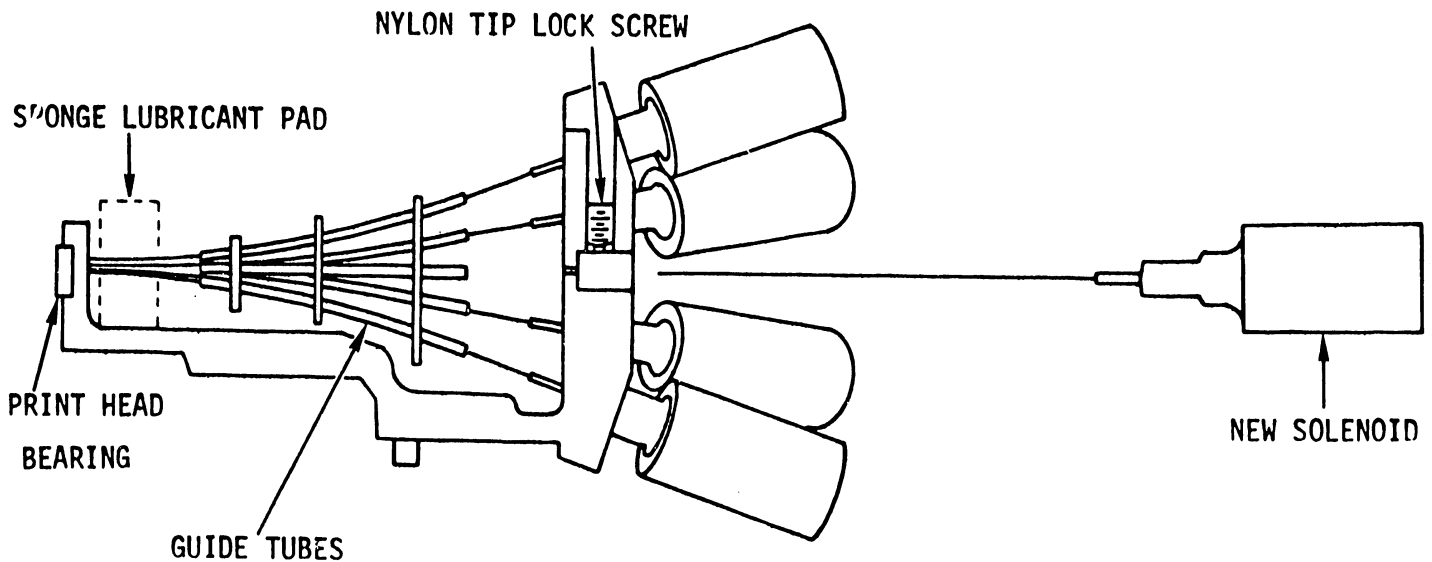

FIGURE 5-11 REMOVAL AND REPLACEMENT OF SOLENOIDS
- 4) Loosen desired lock set screw and unscrew solenoid from head casting. See Figure 5-11.